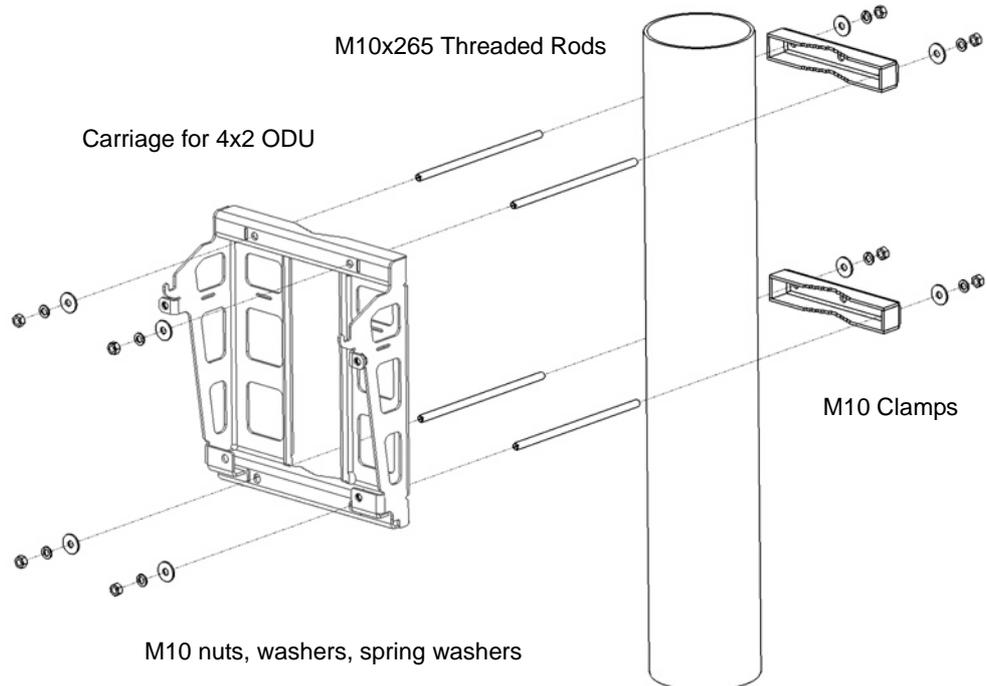

Figure 2-5: Mounting the Single 4x2 ODU Carriage on a Pole
- 4 Thread the four M10x265 threaded rods through the carriage and the rear clamps (Figure 2-5).